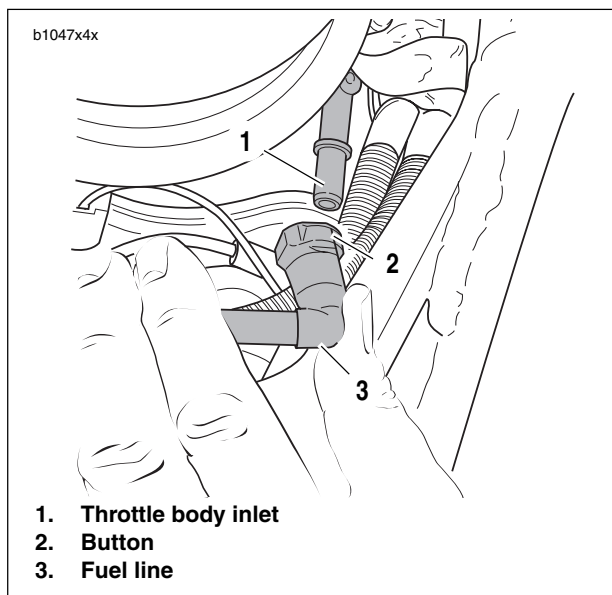

Figure 4-23. Fuel Line
3. See Figure 4-23. Depress button (2) of fuel line connector and disconnect the fuel line (3) from throttle body inlet (1).